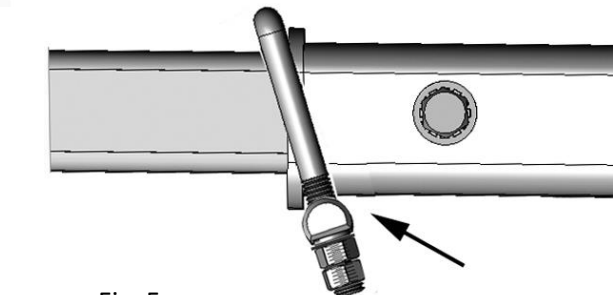

Fig. 5
*Note: The hitch tightener can be installed with the clamp bar below the hitch and behind the flange per Fig. 5.*
Place the main frame **A** with plastic sleeve into the bracket of the hitch tube **B** per Fig. 5.